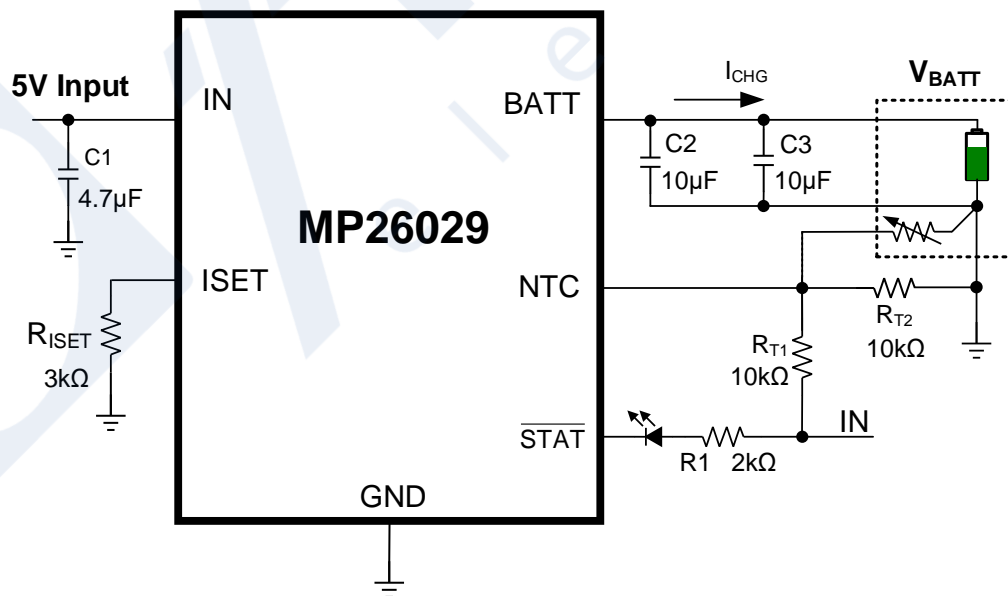

Figure 2: MP26029 Typical Application Circuit with 5V Input
One example of a simple charger is the MP26029, a single-cell Li-ion/Li-polymer battery charger IC with thermal regulation (see Figure 2). The on-chip charging MOSFET works as a fully featured linear charger with pre-charge, constant current (CC) charge, constant voltage (CV) charge, charge termination, and auto-recharge. The internal bias circuit is powered by the higher voltage between IN or BATT. The MP26029 also provides an ISET pin to enable or disable charging, as well as a status indication pin to report when the device is actively charging, has finished charging, or if charging has been suspended.